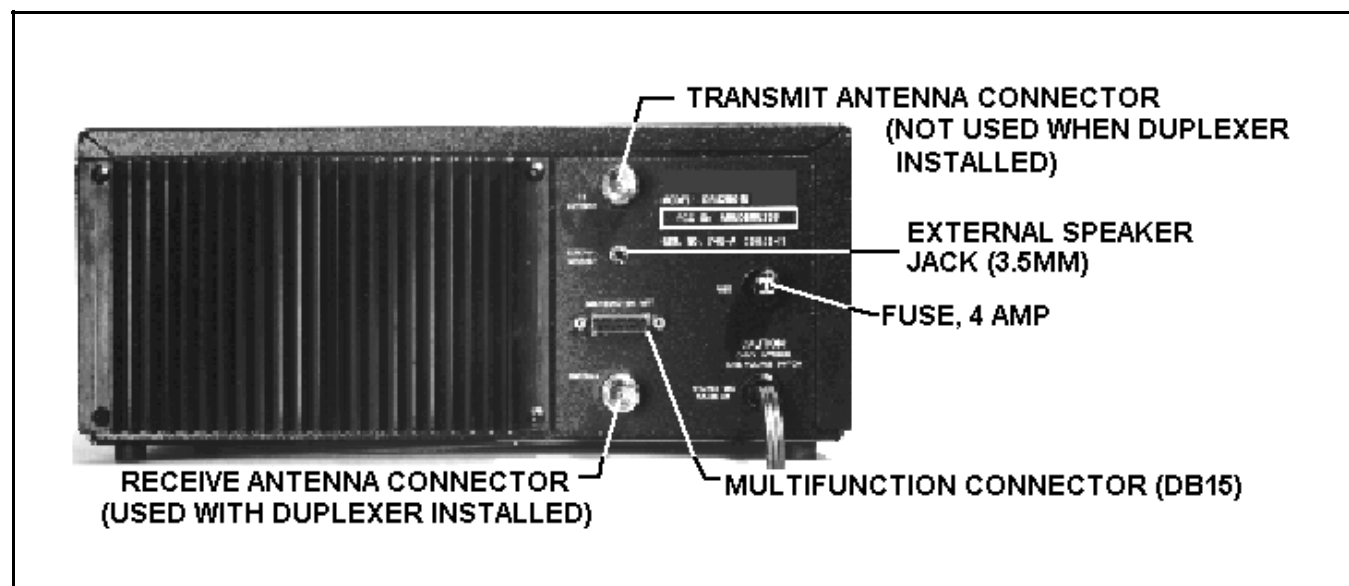

Figure 2 - Rear Panel Details.
1. Install the TX and RX antenna cables on their respective N type connectors. See Figure 2 below.